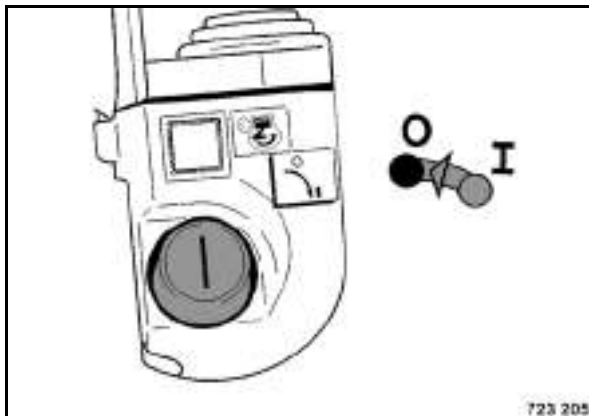

Fig. 70
- Turn the ignition key (Fig. 70) to position "0". Transmitter and engine will be switched off after two seconds, the green control light on the transmitter goes out.